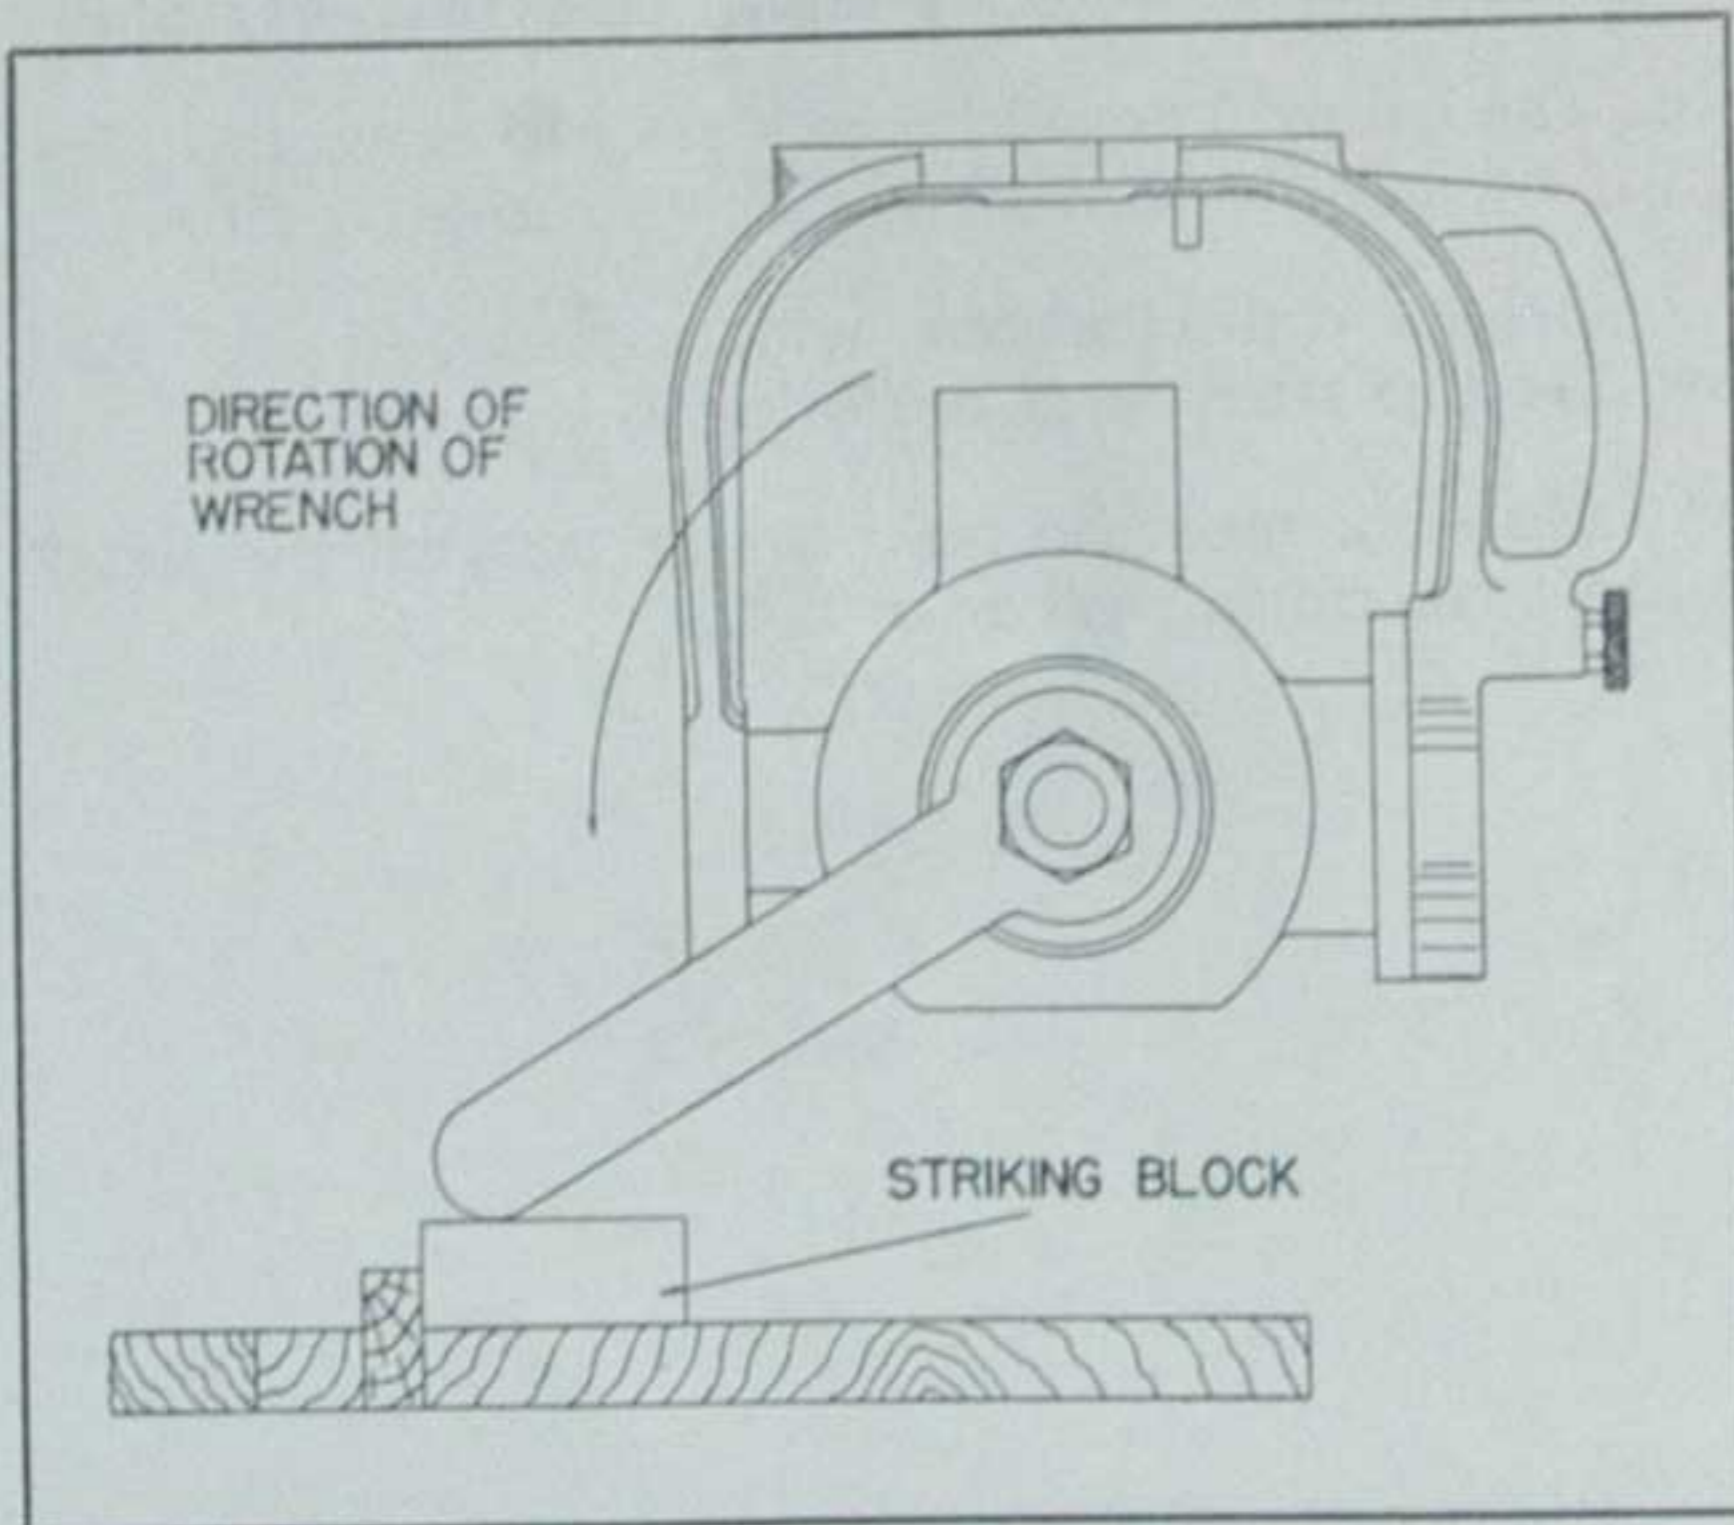

FIGURE 4
1. Fit an arbor wrench to the hex arbor nut (figure 4).
3. Throw the wrench to the left (counterclockwise) as in figure 4. The motion of the wrench will loosen the arbor nut.